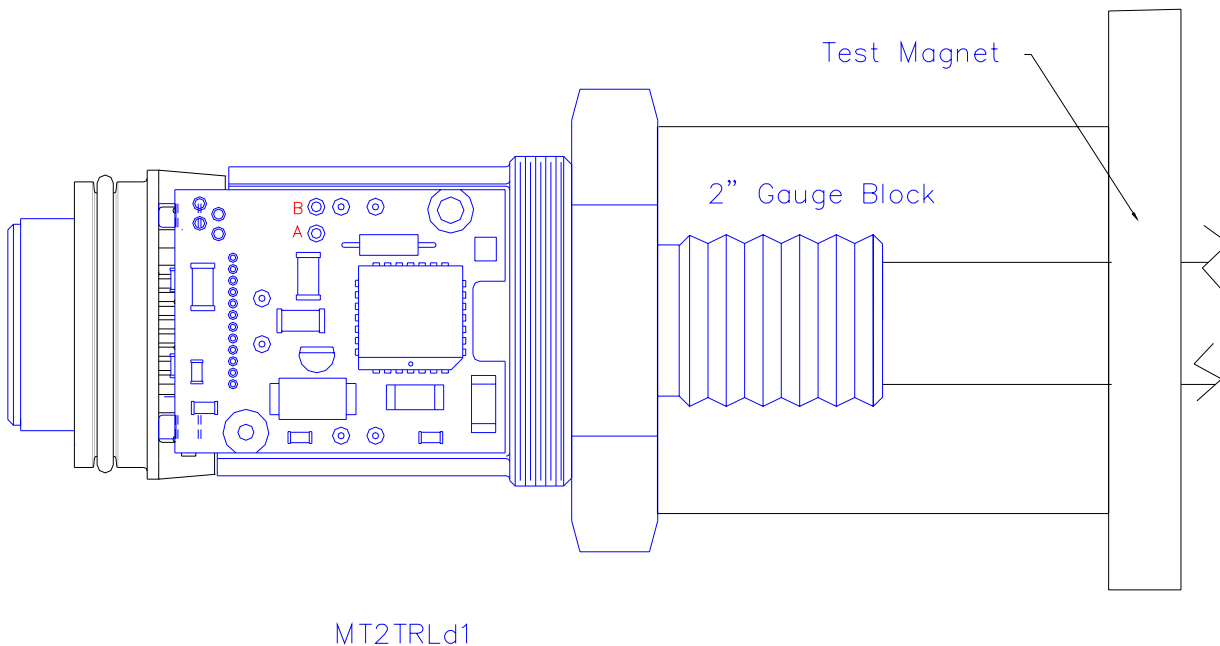

Fig 2
- 4) Slide the Trim Magnet to within 2" of the hex. Reference Fig 2. Two signals like that shown in Figure 4 should be present on the oscilloscope screen.
- 6) Move the test magnet along the entire length of the waveguide so it comes to rest next to the 2.000" gauge block as shown in Figure 2. Verify that